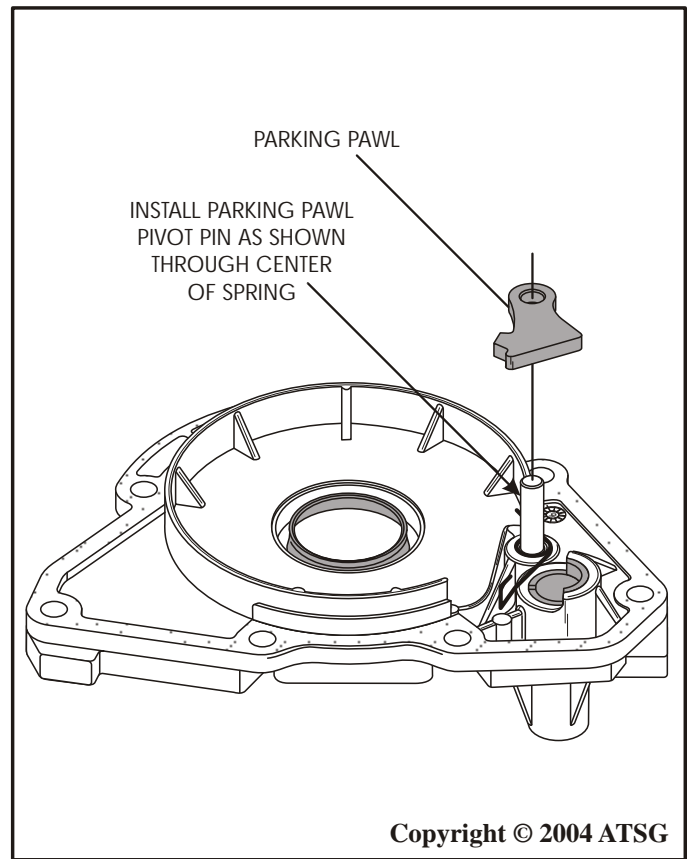

Figure 127
7. Install the parking pawl pivot pin through the center of return spring, as shown in Figure 127.